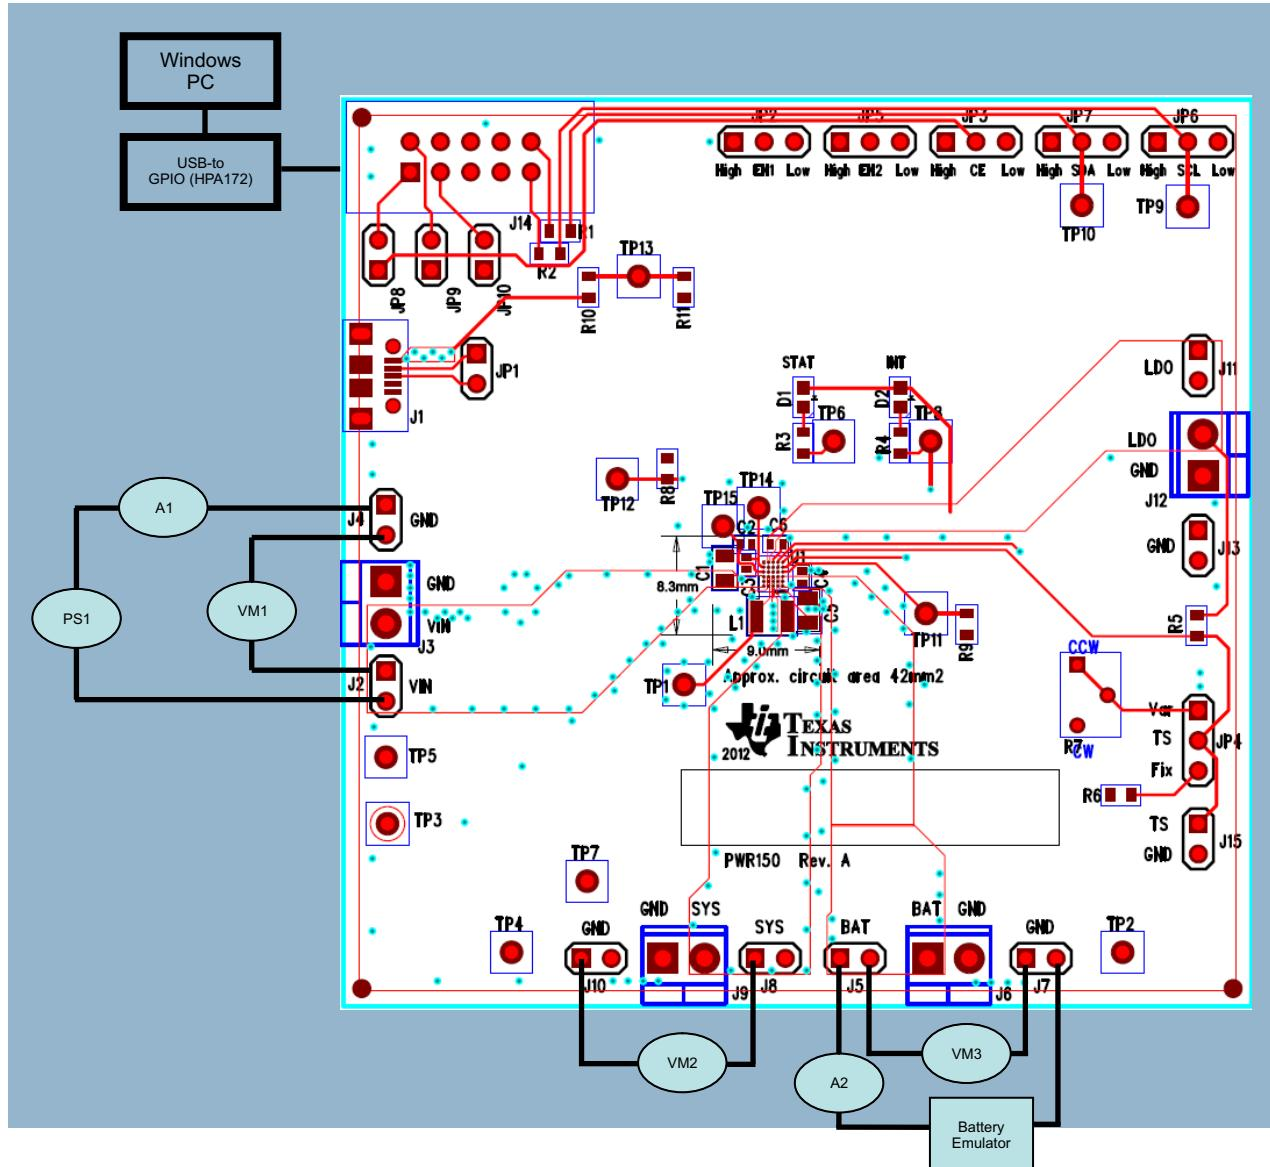

Figure 2. Original Test Setup
9. After the proceeding steps have been performed, the test setup for PWR150 is configured as is shown in Figure 2.